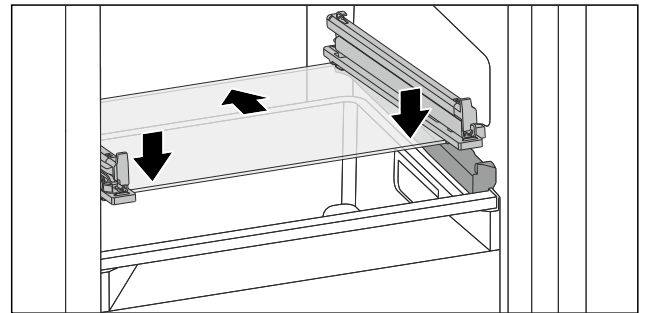

Fig. 74 Tilting drawer glass shelf
- ▶ Position glass shelf at an angle behind the stoppers. (see Fig. 74)